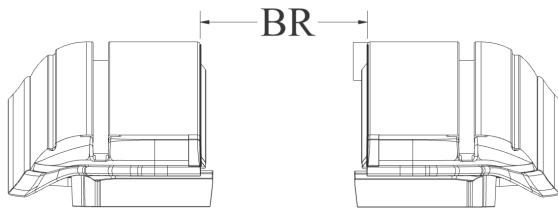
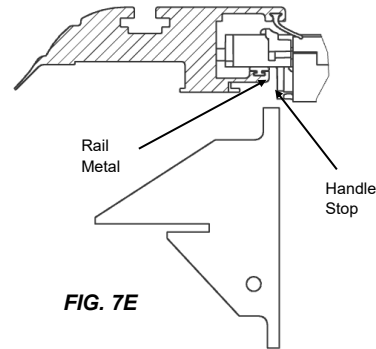

FIG. 7C
FIG. 7E
Finally, check for proper spacing by pushing the handle all the way to one side and attempting to insert the BR Gauge in between the rail metal and the handle stop at the opposite side (Fig 7E). You must do this at the canister and tailgate end of the rails. You can also check the between the rail measurement at the canister and the tailgate end of the rails. The measurements should be equal to or less than those in Figure 7C. The Clamp Extensions have been pre-installed with brackets and shims to achieve the proper Between the Rail dimension (BR) when placed on an average factory truck bed. However, not all truck beds are average dimensionally and some have optional plastic caps or over the rail spray-in liners.